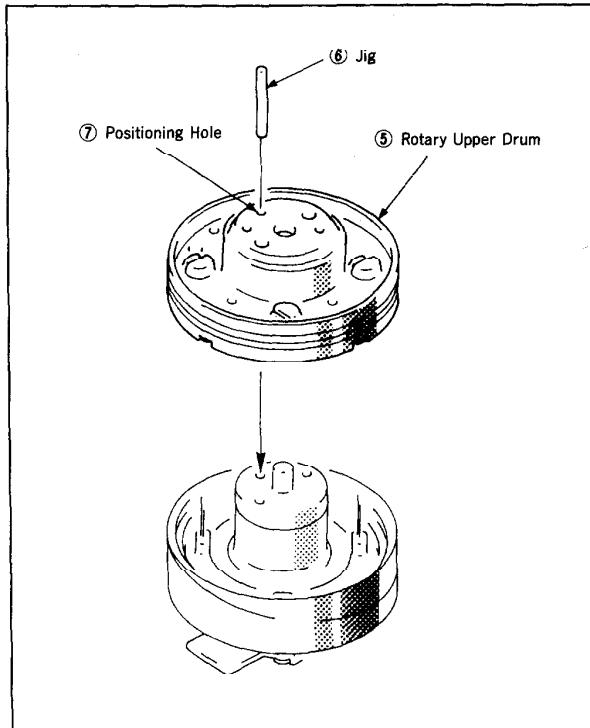

Fig. 30
- 1) Wipe clean the flange surface and the rotary upper drum ⑤ surface that makes contact with it, and confirm that they are free from dirt and scratches.
- 2) Insert the jig ⑥ (Ref. No. J-8) into the drum positioning hole, then set then set the rotary upper drum ⑤ by passing the jig through its positioning hole ⑦ (Fig. 30)